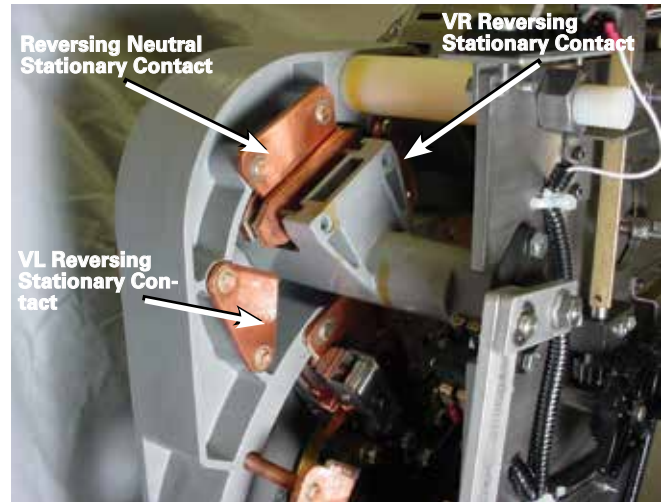

Figure 87. VL reversing stationary contact location.
1. Each QD5 tap-changer has one VL reversing stationary contact. See Figure 87.